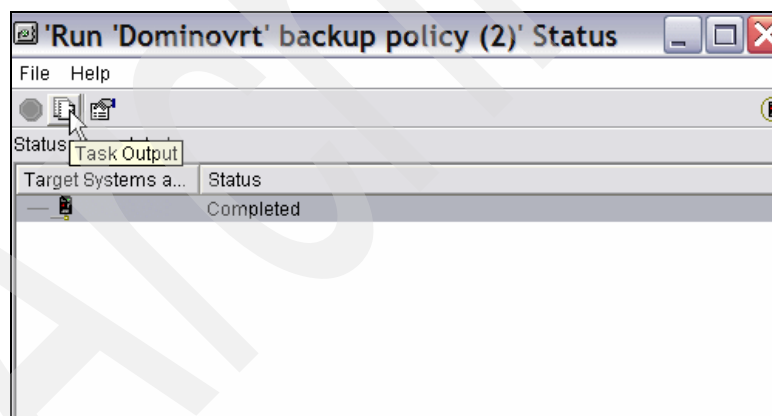

Figure 5-72 BRMS run Domino backup, job completed
1. Click the **Task Output** icon; see Figure 5-72. The listings from the job are shown.